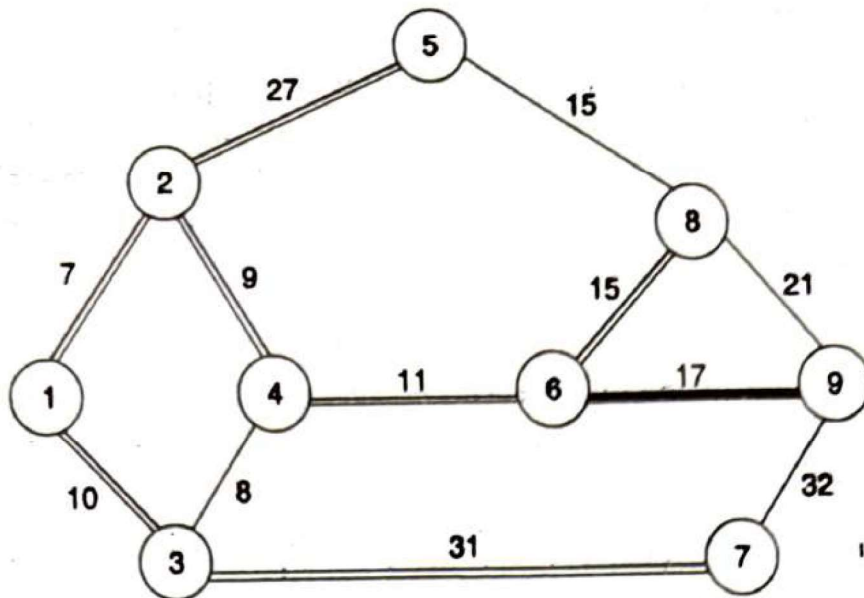

Fig. 5.19 Network showing final solution.
2.2 The iteration among the preceding iterations in which the distance to L from the starting node is different from X is Iteration 4. The node selected in that iteration is 6. So, thicken the arc 6–9 as shown in Fig. 5.19.